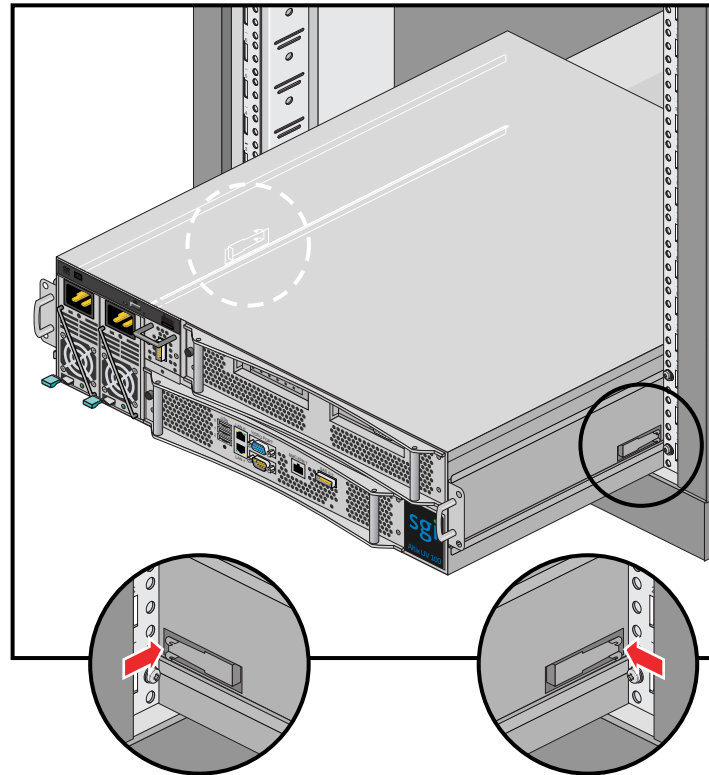

Figure 7-3 Altix UV 100 Sliding Rail Latch Locations
2. Once the IRU's inner rails have properly engaged the outer rails on both sides of the rack; slide the unit inward. You should hear a "click" as the slide-rail latches engage. See Figure 7-3 on page 89 for the location of the slide-rail latches.